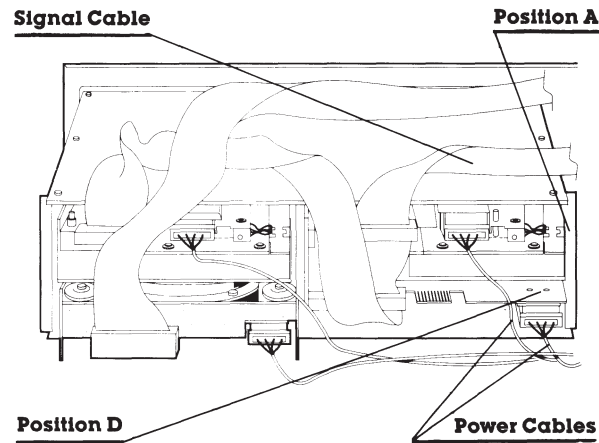

Figure 7-36. Location of the Cables for Mass Storage Devices in Positions A and D.
2. Locate and disconnect the signal cable and the power cable from the back of the mass storage device (Figure 7-36).